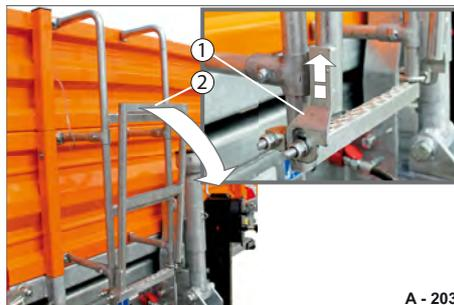

Fig. 220 Folding out ladder
- ▶ Raise the foldable part (Fig. 220/2) upwards somewhat and carefully fold it down. The foldable part engages when folded out.